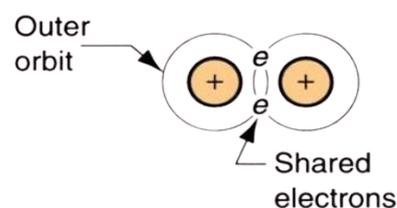

Figure 2.9 : Covalent bonding
- In Figure 2.9, Hydrogens and Carbon share electrons so that both of them can have a stable octet (8 electron valence).